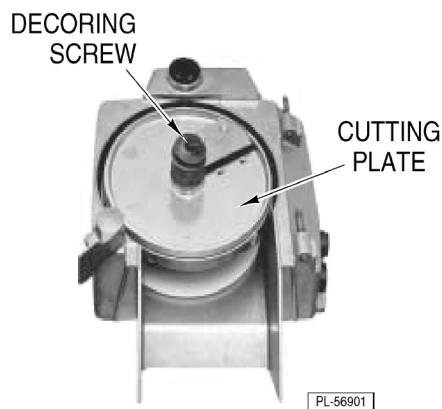

Fig. 5
6. **Avoid contact with sharp knife on the cutting plate** and put the desired cutting plate on the shaft and turn the cutting plate until it falls onto its coupling (Fig. 5). Turn counterclockwise to lock.
7. Put the decoring screw on the shaft. Turn it counterclockwise to tighten (Fig. 5).